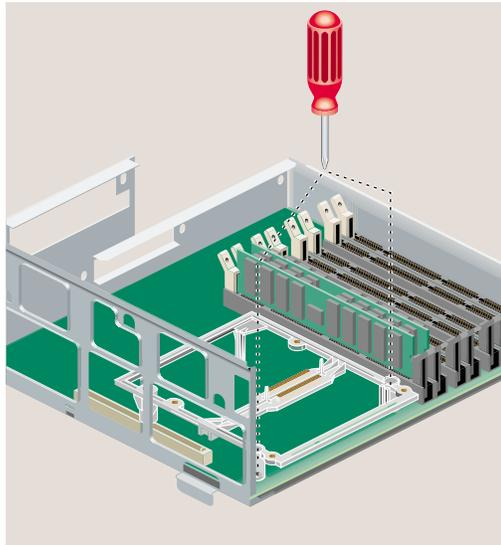

Figure 7 Removing the Top Screws from the CPU Support
9. Use the Phillips screwdriver to remove the top two screws securing the clear plastic CPU support to the system module (Figure 7).